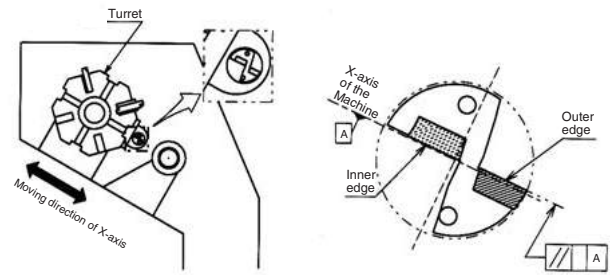

Fig.1 Installed to the Lathe
- (2) It is recommended to set the outer insert as shown in Fig.1 with the outer insert facing the operator. (Fig.1)